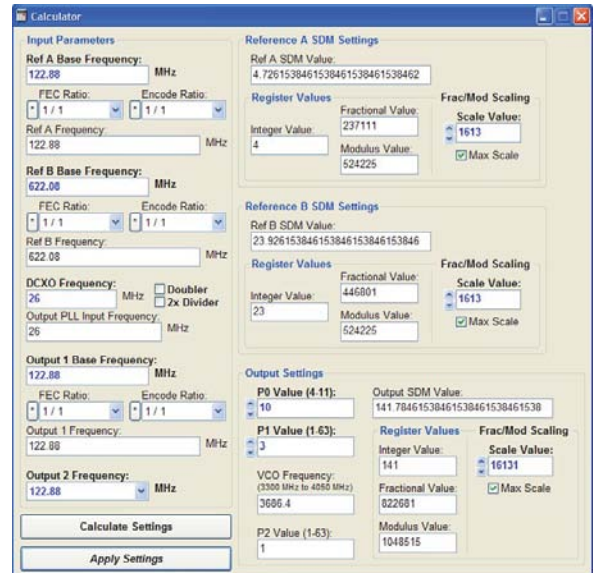

Figure 24. Calculator Window
- The **Calculator** window, shown in Figure 24, appears.